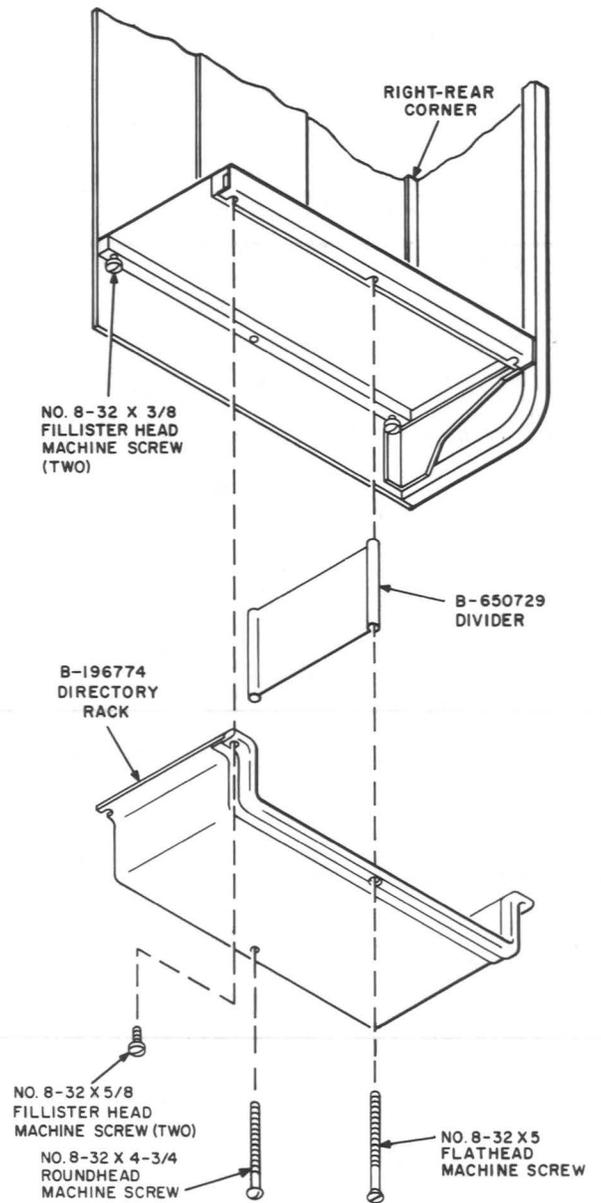

Fig. 16—Assembly of KS-19267, List 11 Directory Rack
3.05 Some KS-19267 shelves are equipped with a KS-19267, List 11 directory rack (Fig. 16) and some are equipped with a KS-19267, List 13 cover